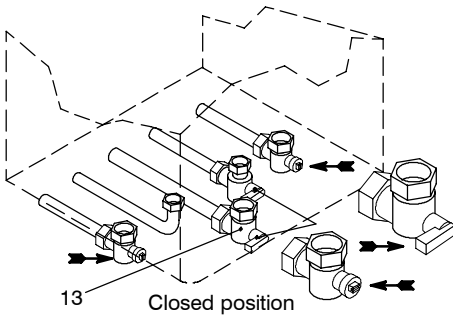

Fig. 2.11
- 2 Shut off the gas supply cock 13 and the valves for the water circuits fitted under the boiler (Fig. 2.11).